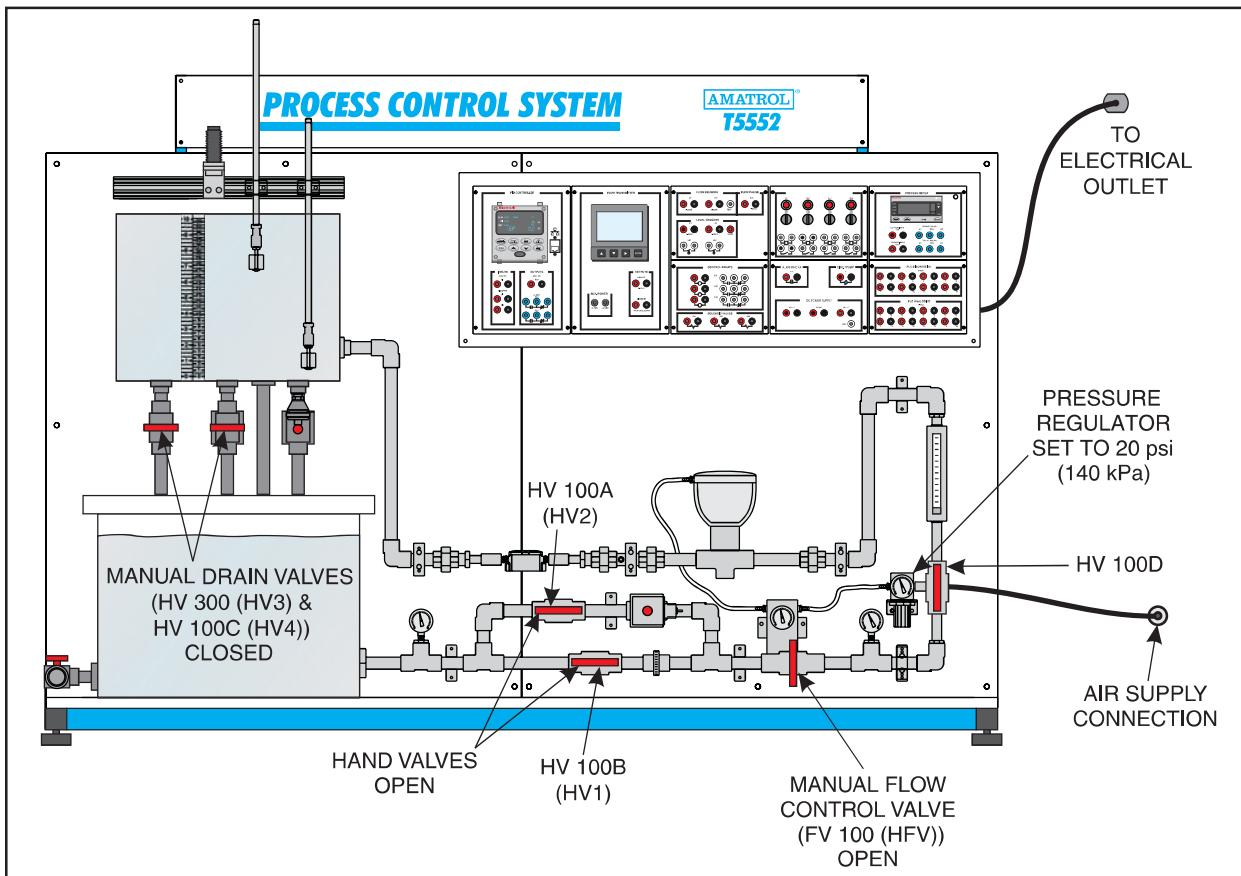

Figure 6-1. T5552 Setup
- 2. Perform the following substeps to set up the T5552, as shown in figure 6-1.